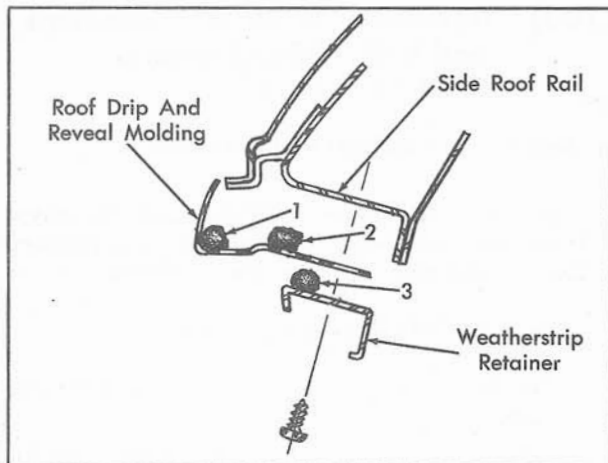

Fig. 17-62 Sealing Roof Drip Reveal Molding
4. To install, first apply a bead of medium-bodied sealer along the entire length of the molding at the two locations indicated by "1" and "2" in Fig. 17-62; then reverse the removal procedure.
NOTE: Prior to installing the side roof rail weatherstrip retainer, apply a bead of medium-bodied sealer along the entire length of the retainer at the location indicated by "3" in Fig. 17-62.